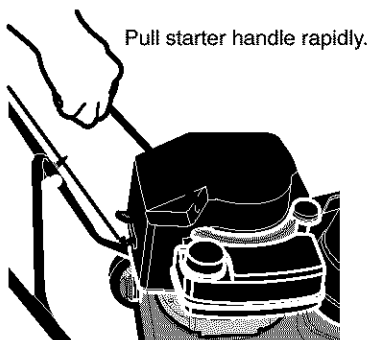

Figure 7
5. Pull the **recoil starter handle** rapidly (See Figure 7). Do not allow the handle to snap back, but allow it to rewind slowly while keeping a firm hold on it.